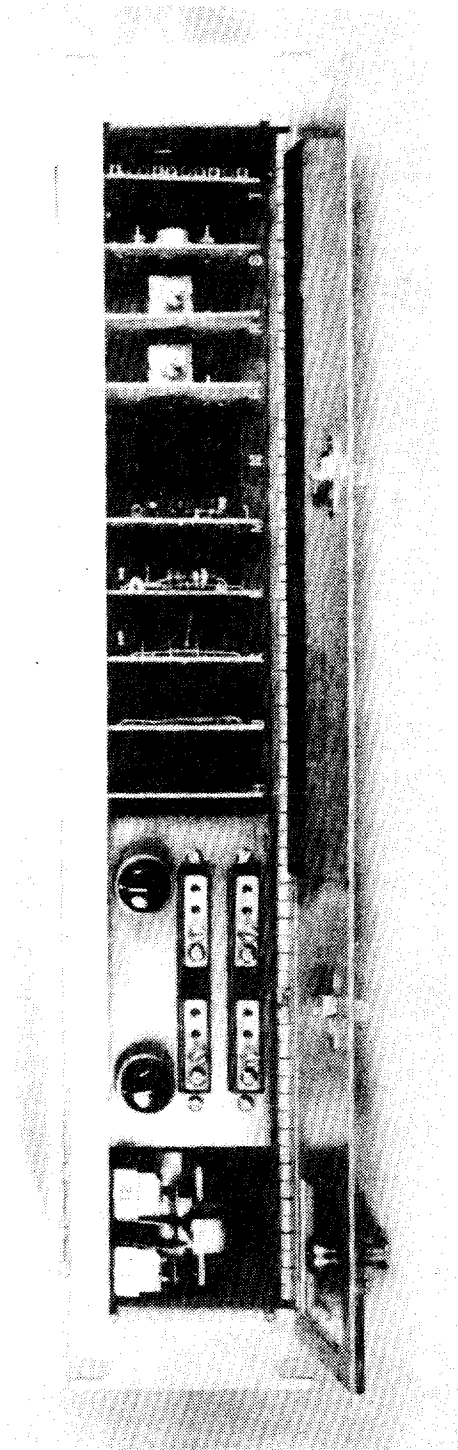

Fig. 1 ( 8043372 ) Type SBC53C Relay, Front Cover Removed (Front View)
2A - 4A ) See Fig. 1 for tap selections.
1.0A - 2.0A ) See Fig. 1 for tap selections